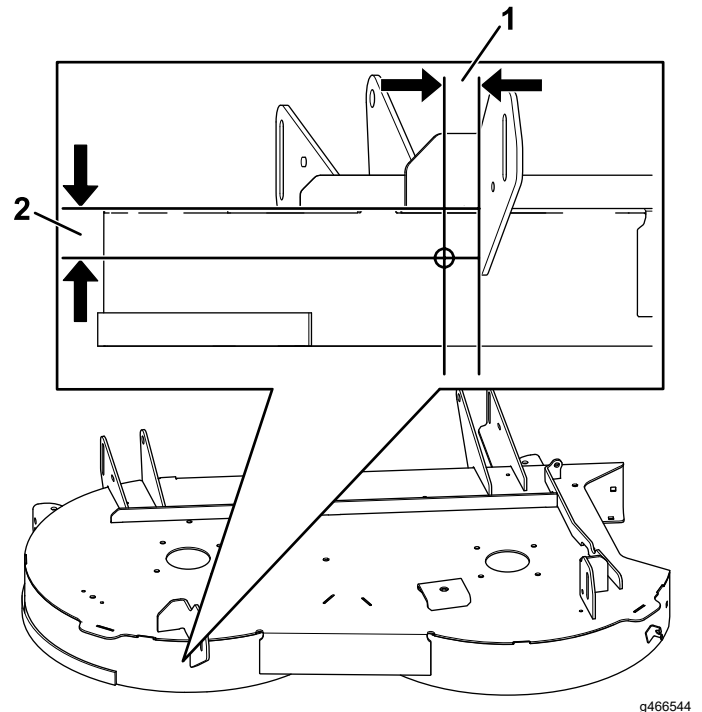

Figure 3
2. Drill a hole at the marked location using a drill bit (9/32 inch) as shown in Figure 3.